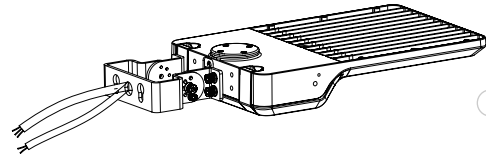

FIG.10
- 1 Unscrew the mounting screws from the fixture and thread the wires through the bracket. Refer to (Figure 10).